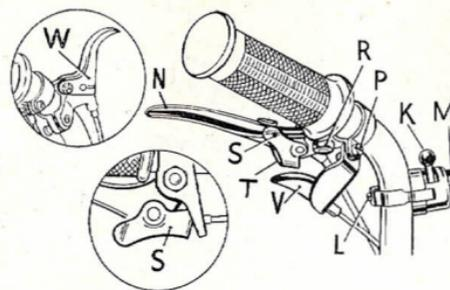

FIG. 2.
**Headlight Switch:**—The “on/off” switch (*K*) Fig. 2, can be moved after slackening screw (*L*).
**Rear Brake Lever:**—The position of this lever (*N*) Fig. 2, can be altered following the slackening of the screw (*P*). Tighten securely after adjustment. Grip the lever to operate the brake. The looseness of the lever is adjusted by rotation of the screw (*R*), after releasing its locknut.
**Parking:**—Whenever your Ariel 3 is left unattended, apply the rear brake and lock in position by means of the latch (*S*) Fig. 2. To release, grip the brake lever, withdraw the latch, and secure it in the “safe” position at (*T*).
**Carburetter Air Control (or “Choke”):**—The trigger-type lever (*V*) Fig. 2, operates the shutter at the mouth of the carburetter and can be repositioned only in conjunction with the rear brake lever. This control provides a rich mixture for cold starting purposes only. Cable adjustment is described on page 12, and should be such that a small amount of slackness is present. NOTE:—The trigger lever (*W*) is sometimes provided as an alternative to lever (*V*).
**To Start Off:**—Open the fuel tap (C) Fig. 4, and release the parking brake. Rotate the twist grip control to its limit in the direction of the arrow (G) Fig. 1, in order to operate the decompressor, and then pedal the machine in the normal manner. As soon as it is moving at a moderate speed, grip the air control lever (V) or (W), as the case may be, Fig. 2, and turn the twist grip in the direction of the arrow (D) Fig. 1, until the decompressor is inoperative and the throttle is partially opened, when the engine will start. Immediately the engine is running, release the air control lever, and cease pedalling. **NOTE:**—Excessive use of the air control may cause quantities of neat petrol to collect in the crankcase, making starting very difficult. If the engine is warm, do not operate the air control lever.